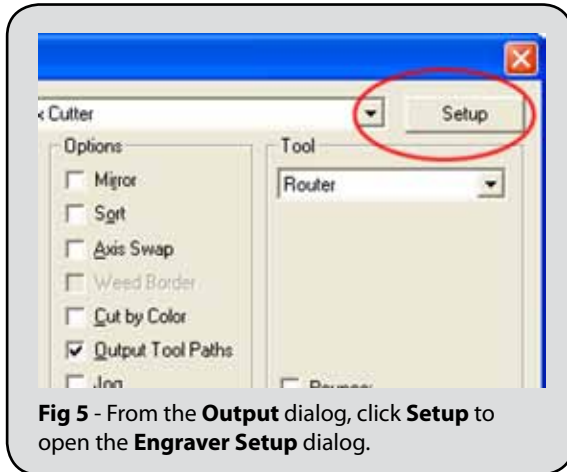

Fig 5 - From the **Output** dialog, click **Setup** to open the **Engraver Setup** dialog.
11. Click the **Setup** button. (Fig. 5)